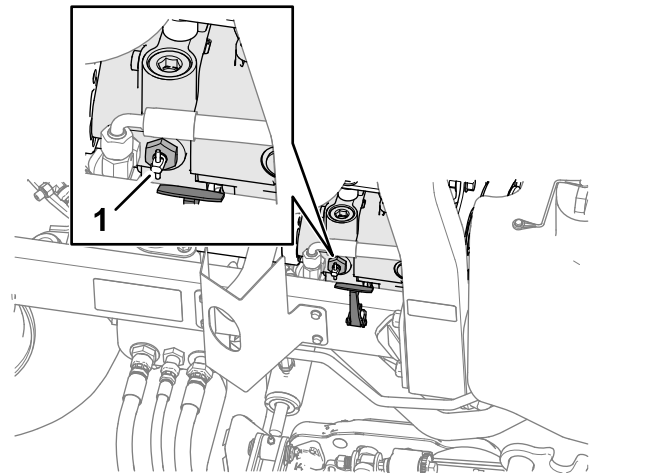

Figure 48
2. Near the right hood latch, rotate the bypass-valve handle on the pump 90° (Figure 48).